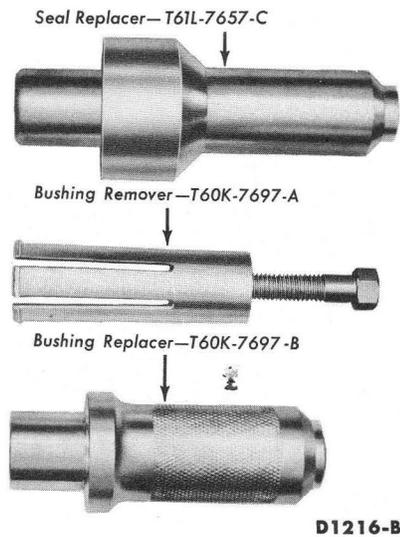

FIG. 2—Extension Housing Bushing and Seal Service Tools
3. Remove the bushing using tool shown in Fig. 2. **Use caution when the bushing remover tool is installed so that the spline seal is not damaged.**
4. When installing a new bushing, use the special tool shown in Fig. 2.